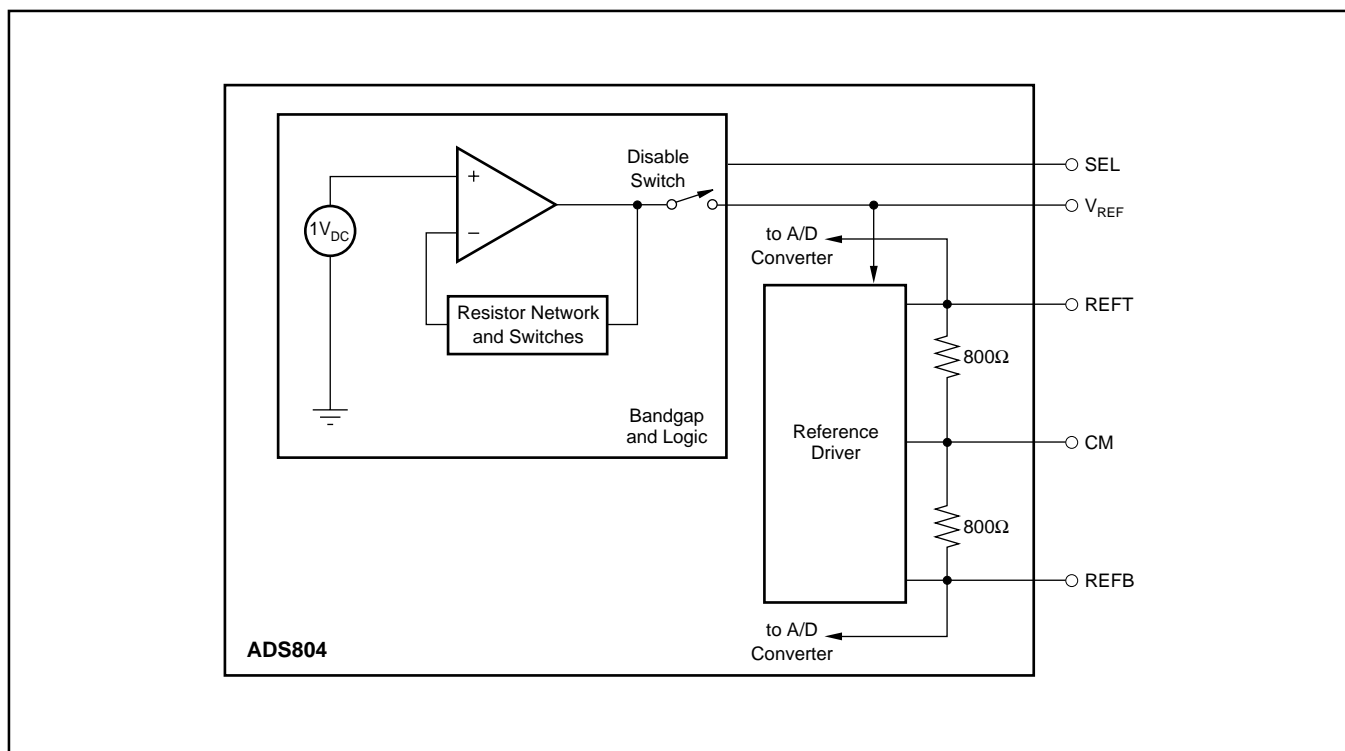

FIGURE 4. Equivalent Reference Circuit.
A simple model of the internal reference circuit is shown in Figure 4. The internal blocks are a 1V-bandgap voltage reference, buffer, the resistive reference ladder, and the drivers for the top and bottom reference which supply the necessary current to the internal nodes. As shown, the output of the buffer appears at the V_{REF} pin. The full-scale input span of the ADS804 is determined by the voltage at V_{REF} , according to equation (1):